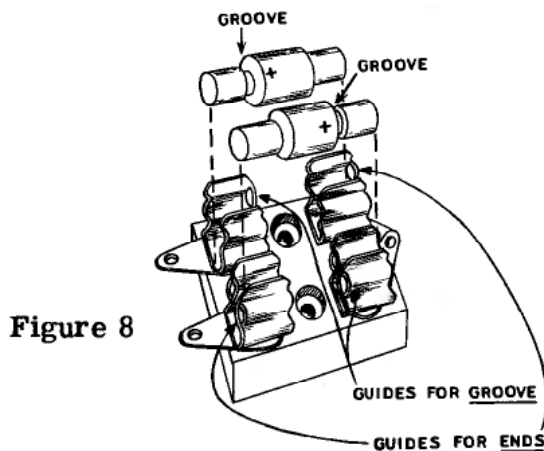

Figure 8
- () Install the silicon rectifiers in the socket, being careful to mount them exactly as shown in Figure 8 and Pictorial 2 on Page 17.